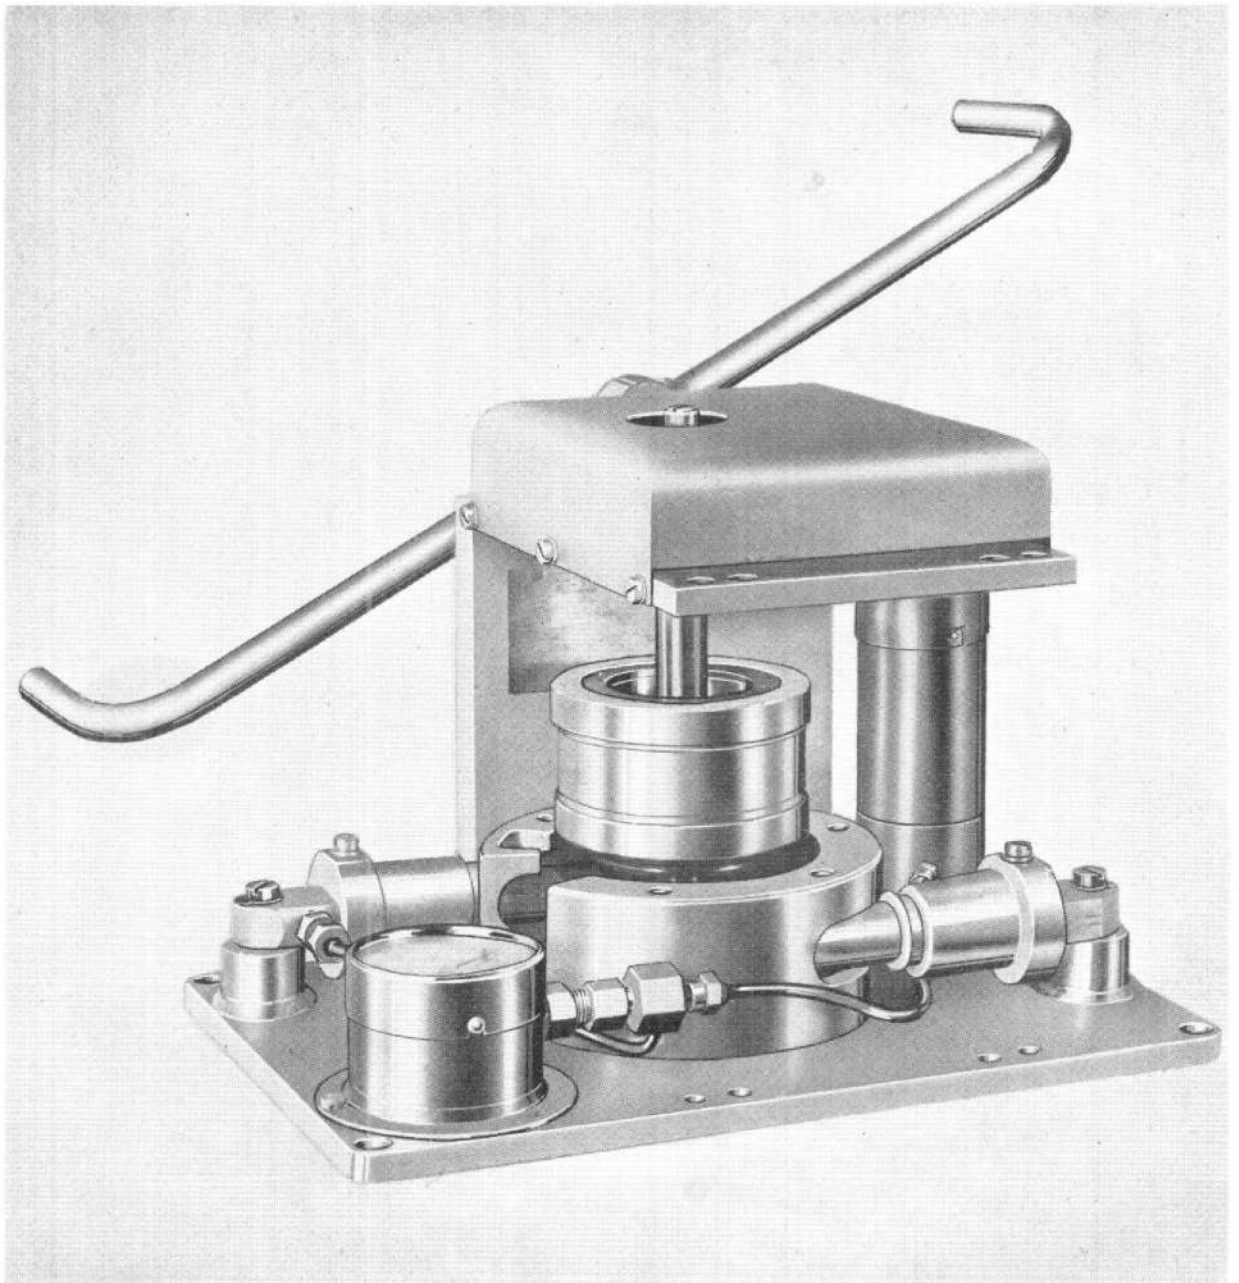

Fig. 25. Clutch setting fixture
55. Load the clutch into the clutch setting fixture (*fig. 25*) and observe the torque at which the clutch slips. Slip should occur at a torque of 83 lb ft